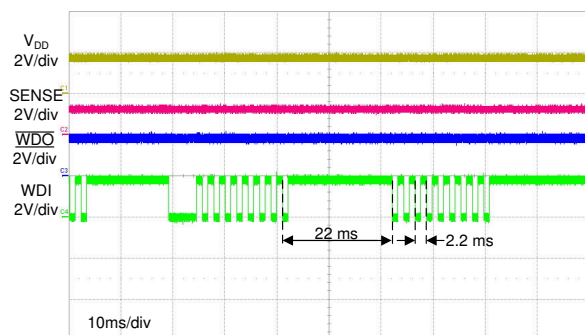

Figure 8-10. Window Watchdog Timing
In this application, the window watchdog timing options are based on the PWM signal that is provided to the TPS3850-Q1. A window watchdog setting must be chosen such that the falling edge of the PWM signal always falls within the window. A nominal window must be designed with $t_{WDL(\text{max})}$ less than 5 ms and $t_{WDU(\text{min})}$ greater than 5 ms. There are several options that satisfy this window option. An external capacitor can be placed on the CWD pin and calculated to have a sufficient window. Another option is to use one of the factory-programmed timing options. An additional advantage of choosing one of the factory-programmed options is the ability to reduce the number of components required, thus reducing overall BOM cost. Leaving the CWD pin unconnected (NC) with SET0 = 0 and SET1 = 1 produces a $t_{WDL(\text{max})}$ of 2.22 ms and a $t_{WDU(\text{min})}$ of 23.375 ms; see Figure 8-10.